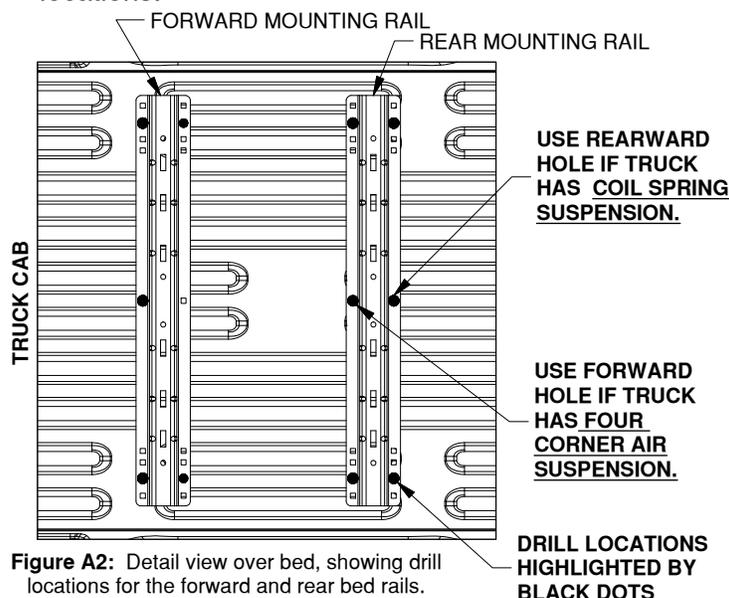

Figure A2: Detail view over bed, showing drill locations for the forward and rear bed rails.
NOTICE: The hole pattern used in the rear rail will be different depending on your suspension. Study Figure A2 carefully prior to marking your hole locations.
- 2. Mark the hole locations.** While carefully ensuring the mounting rail does not move, use a center punch tool to mark the five drill locations on the rear rail that match your truck's suspension style, shown in Figure A2. (Forward rails will install on a later step.) It is critical that the five drill locations be marked exactly in the center of the square hole in the rail. Once all five rear rail locations are clearly marked, move the bed rail out of the way and drill each location with an 1/8" drill.
2. **Drill forward mounting pilot holes.** Using the holes in the forward mounting rail, mark the five drill locations. Refer to "DRILL REAR MOUNTING HOLES" section, Step 2, on Page 2. Notice that the hole locations may be slightly different than the rear rail, see Figure A2. It is critical that the five drill locations be marked exactly in the center of the square hole in the forward rail. Drill each of the marked locations with a 1/8" pilot hole.